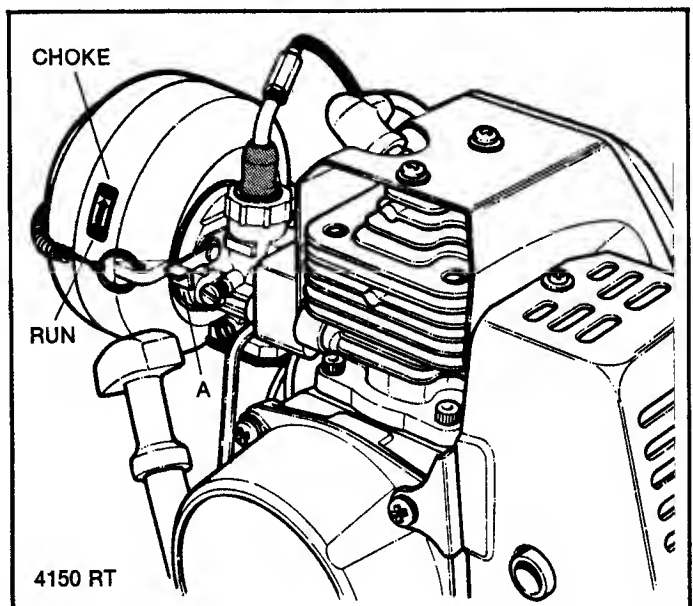

FIG. 4 - CHOKING THE ENGINE
2. Move the CHOKE LEVER (A) to the CHOKE position on cold engines. Place your foot on the wheel to secure unit while pulling the starter rope. Pull the starter handle with the right hand using full strokes until the engine starts to run. Refer to FIG. 4.
3. After the engine has warmed up for approximately 5 seconds, move the choke lever (A) down to the RUN position.